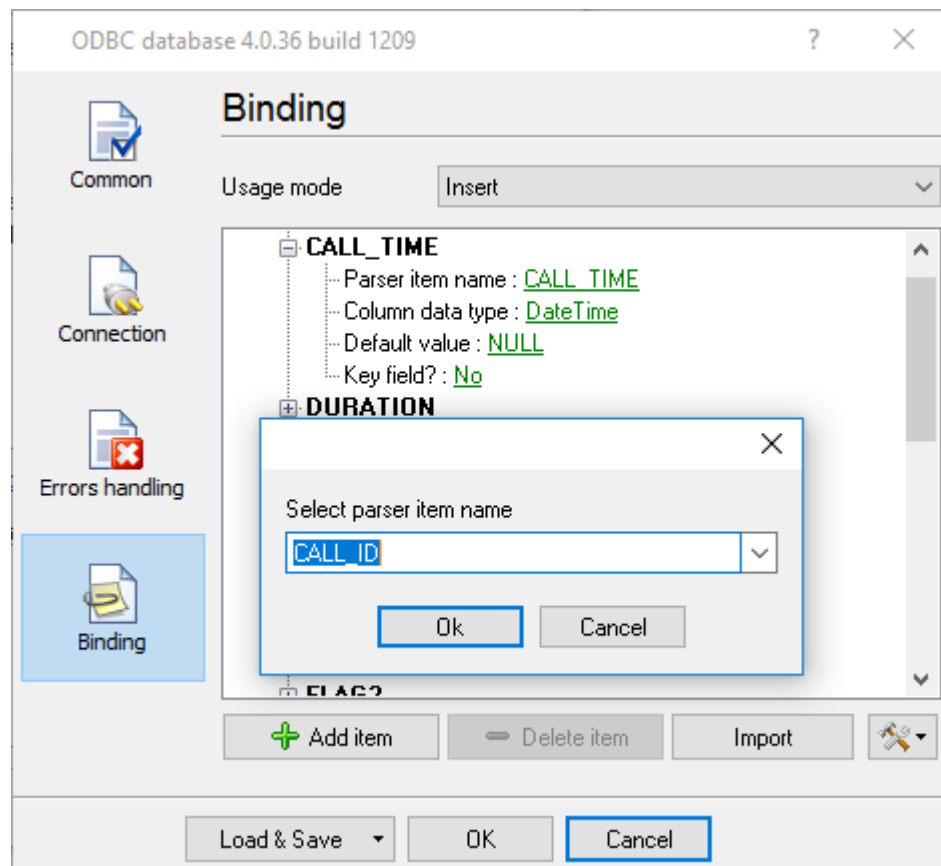

Figure 1. Binding in ODBC Database
3. Click the “Parser item name” item and bind it to a different parser variable, “CALL\_ID” (Figure 1). If the drop-down list does not contain the variable name, enter that name manually.